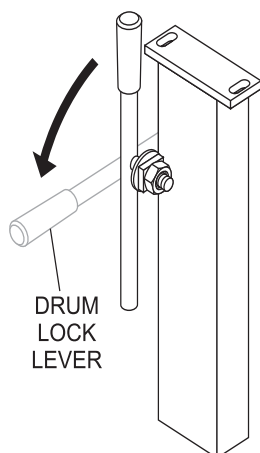

Figure 25. Drum Lock Lever
1. Release drum lock lever by pushing lever into **vertical** position (Figure 25).